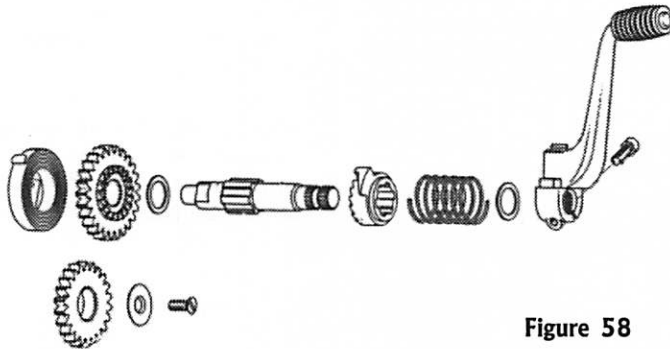

Figure 58
1. Disassemble the kickstarter assembly as shown in Figure 58.